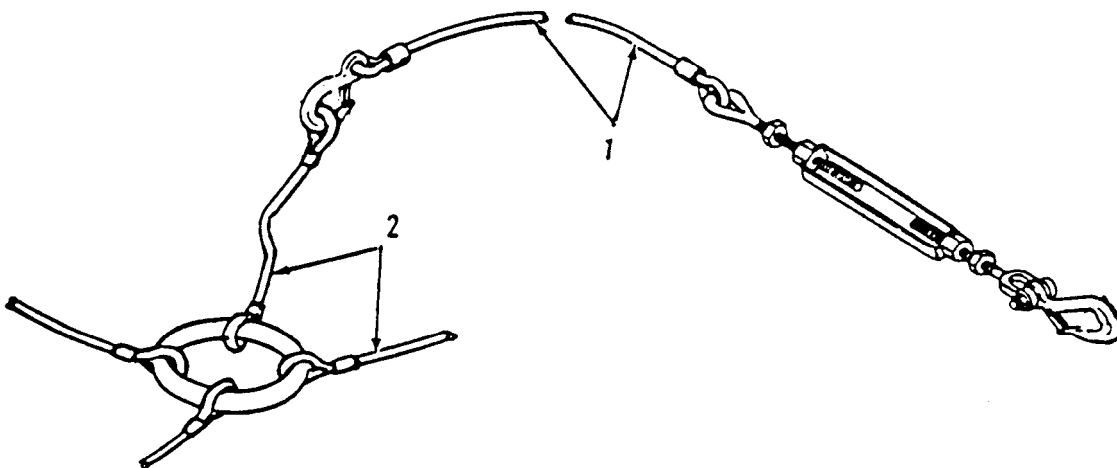

Figure 3-39. Sling Assembly Repair.
a. Inspect (Figure 3-39)
- (1) Inspect cable assembly for missing or damaged hardware.
- (2) Inspect cable assembly hooks and turnbuckle for proper operation.
b. Replate. (Figure 3-39)
- (1) To replace any of the four cables (1) from the ring assembly (2), open safety snap on attaching hook of cable assembly and remove hook from thimble of ring assembly.
- (2) Push safety hook of new cable assembly (1) to attach the thimble of the ring assembly (2).